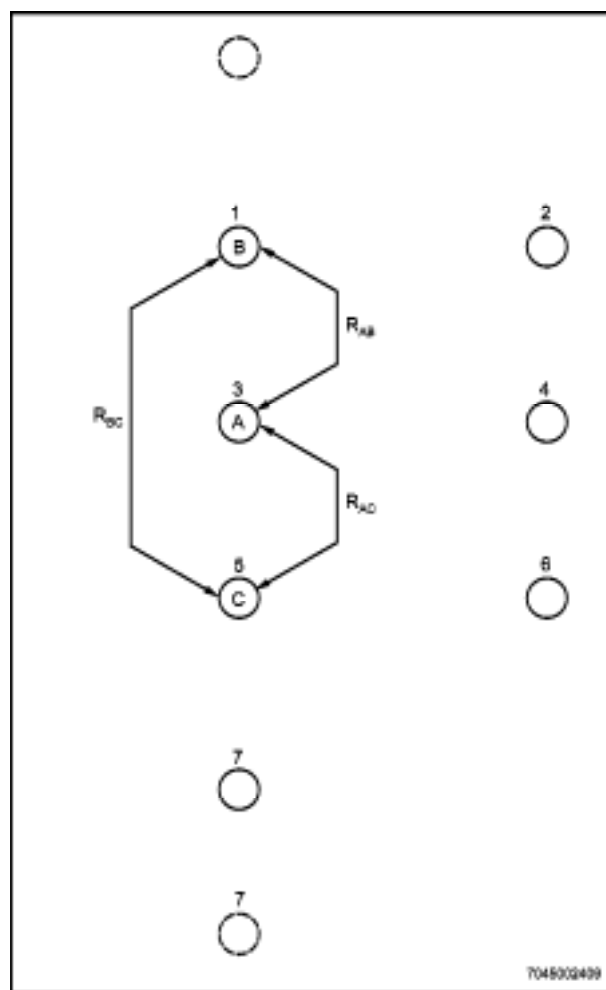

Figure 14–11 Ground earthing Point Test Setup for GEOHM Type Testers
- a. *Three Electrode Method.*** This is the preferred method of measuring the earth resistance of an ground earthing point. Using three collinear electrodes, (ie three ground earthing points A, B and C as shown in Figure 14–11), measure the resistance between each in turn. The resistance of earth point A is calculated from: